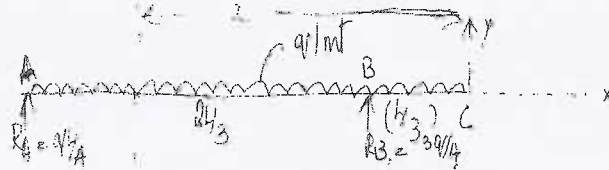

Fig.Q.6(b)
b. A simply supported beam 'AB' of span $\frac{2L}{3}$ has an overhang BC of length $\frac{L}{3}$. The beam supports a uniform load of intensity 'q' per meter run over (Refer Fig.Q.6(b)).